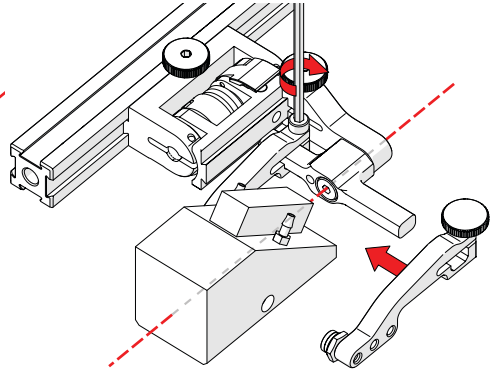

Fig. 74 - Place wedge
7. Position the wedge on the inner probe holder arm (Fig. 74).